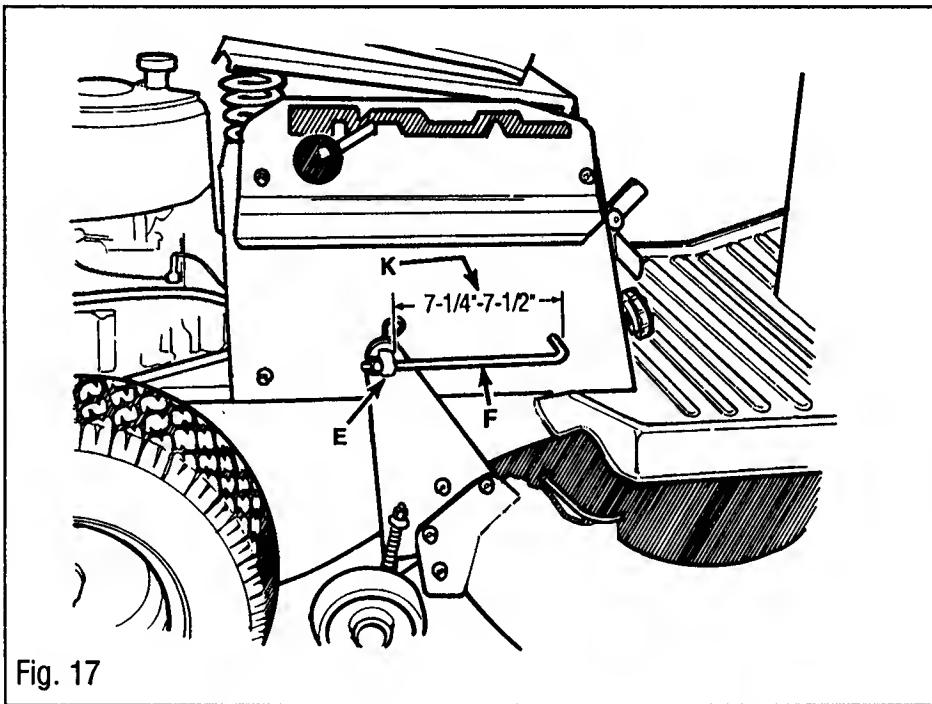
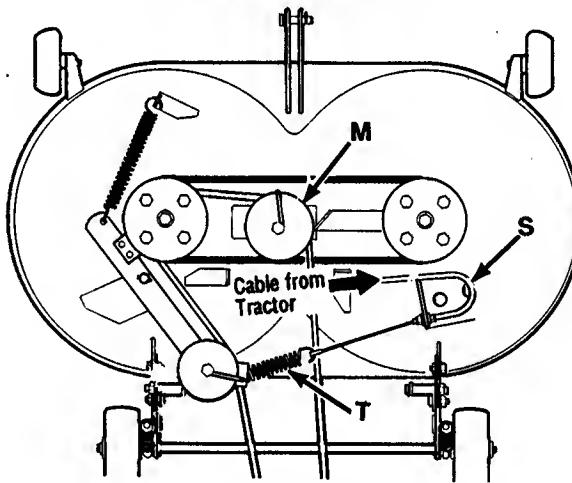
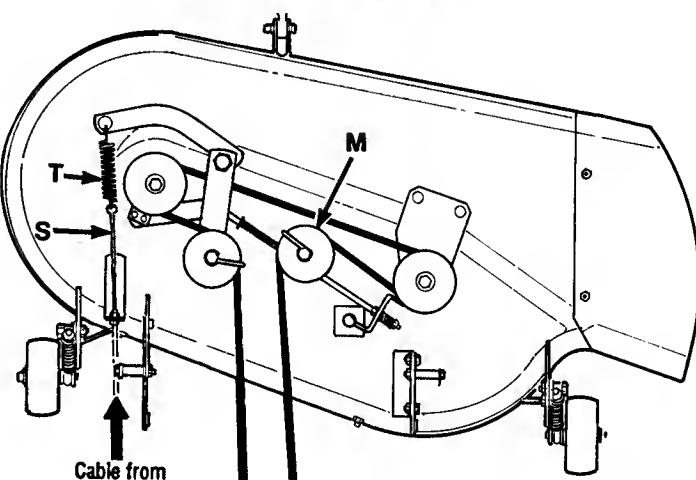

Fig. 17
Fig. 19
Fig. 21
Check distance (K, Fig. 17), between center of pivot block and center of pivot. Normal distance should be 7-1/2" (7-1/4" for 36" Decks). **NOTE: AFTER THE MOWER HAS BEEN USED FOR A WHILE, THE MOWER DRIVE BELT CAN STRETCH AND BEGIN**
Belt tension is controlled by position of idler (M, Figs. 19 & 21) and pivot rods (F, Fig. 17). Distance (K, Fig. 17) should be 7-1/2' for 33" decks 7-1/4" for 36" decks. Adjust position of idler (M, Figs. 19 & 21) by moving it along the slot. If further adjustment is necessary, adjust distance (K, Fig. 17) by rotating pivot (E) to the rear. Re-adjust front center link to level mower. **NOTE: AFTER THE MOWER HAS**
With mower lift lever (See page 18, Item I) in the disengaged position, adjust cable (S, Figs. 19 & 21) at nuts (R, Fig. 21) so there is a slight slack in cable. **WHEN ADJUSTED, SPRING (T)** SHOULD NOT BE UNDER TENSION.